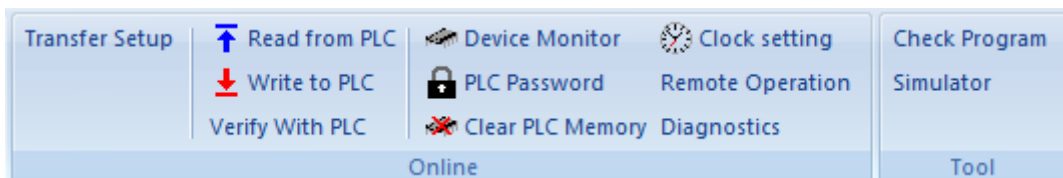

Figure 5-7
- If successfully connect with PLC, users can check PLC information by click [Device Info], as Figure 5-7 shows, the version also can be check by D8001 and D8101.